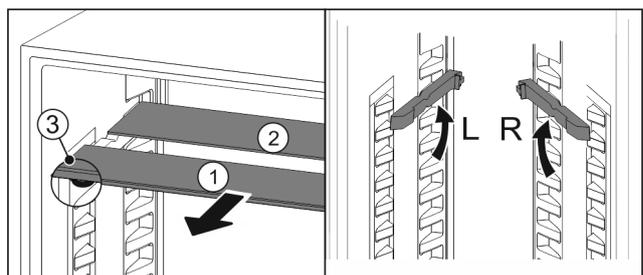

Fig. 120
- ▶ Pull the glass panels out *Fig. 120 (1)* from the front, one at a time.
- ▷ The glass panel *Fig. 120 (1)* with the trim strip is at the front.
- ▷ The stops *Fig. 120 (3)* point downward.